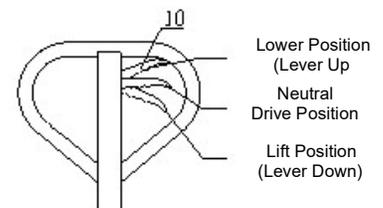

Figure 5
4.1. After assembling the pallet truck, try to swing the handle, operate the control lever (item 10) in different positions to perform the Lift, Neutral and Lower functions (See Figure 5). Check if the different positions are normal.